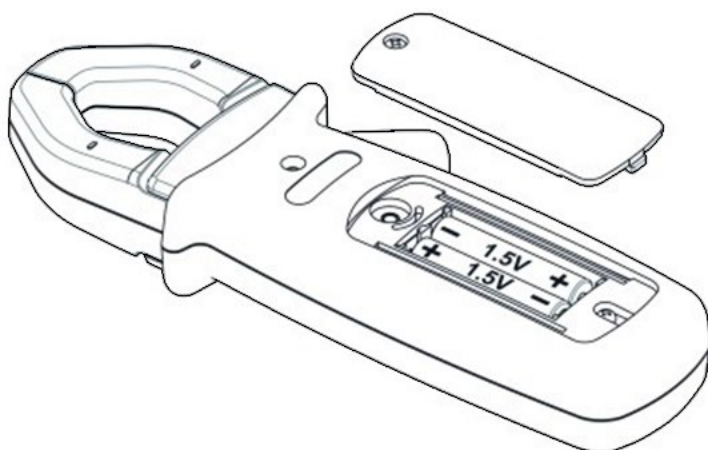

Figure 4
1. Using a screwdriver, remove the battery compartment cover from the back of the housing (see Figure 4).